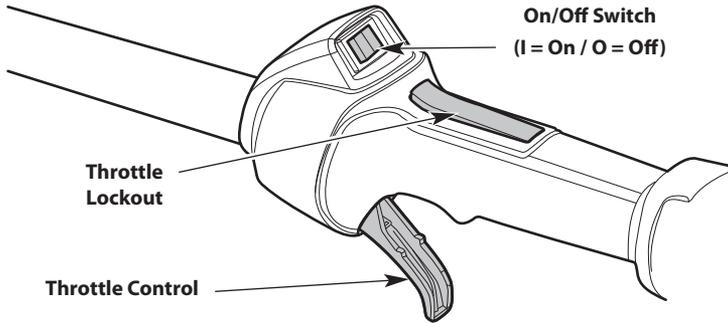

Fig. 10
NOTE: There is no need to turn the unit on. The On/Off switch is in the **On (I)** position at all times (Fig. 10).
4. Press and hold the throttle lockout (Fig. 10). Squeeze and hold the throttle control (Fig. 10).
2. Press and hold the On/Off switch in the **Off (O)** position until the engine comes to a complete stop (Fig. 10).
5. Press and hold the throttle lockout (Fig. 10). Squeeze and hold the throttle control (Fig. 10).